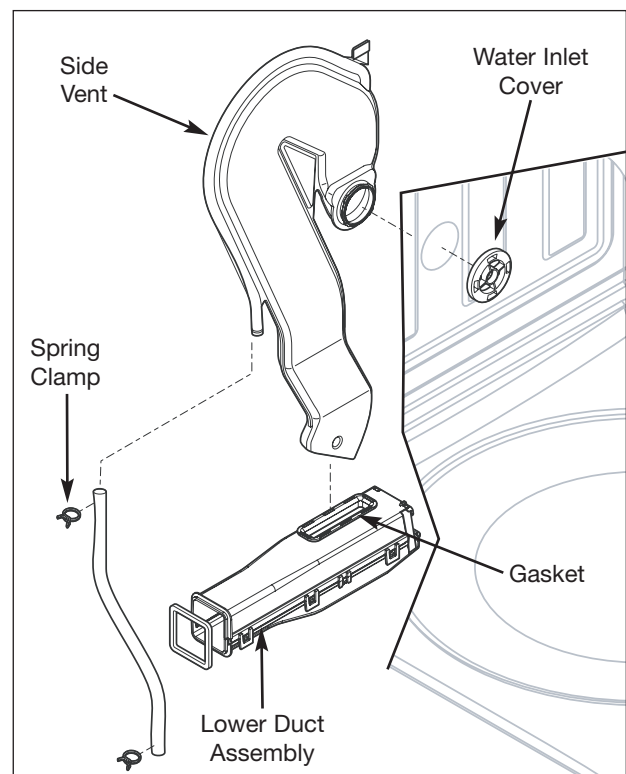

Figure 5-33. Side Vent Removal
3. Use a pliers to remove the spring clamp from the tubing connected to the side vent drain tube. (See Figure 5-33)